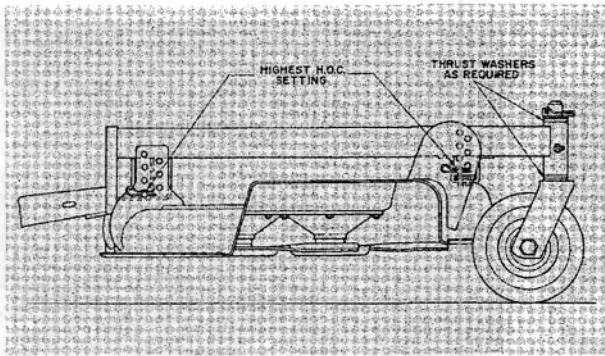

Figure 101
2. Raise height-of-cut to 4 in. (102 mm) position (Fig. 101); refer to Adjusting Height-Of-Cut, page 12.
- A. Cutting units usually operated at 1 to 2 in. (25 to 51 mm) height-of-cut should have the low side of the cutting unit raised. Remove the lynch pin securing castor wheel on low end (Fig. 101) and remove castor assembly.
- C. If cutting unit is operated at 2 to 4 in. (51 to 102 mm) height-of-cut, lower the high side of cutting unit. Remove lynch pin of castor at high end of unit and remove castor assembly (Fig. 101).